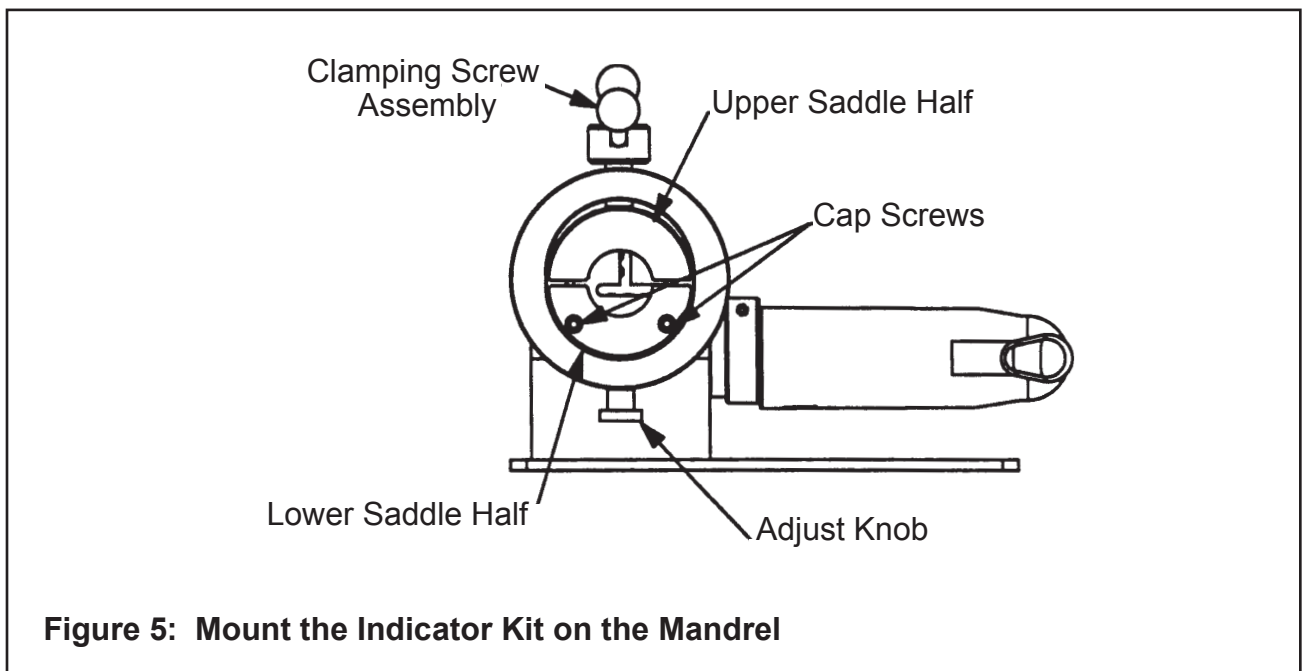

Figure 5: Mount the Indicator Kit on the Mandrel
2. Insert the lower saddle half into the lower front of the main housing. Refer to Fig. 5.
1. Place the pipe or tube into the saddles, Refer to Fig. 5.